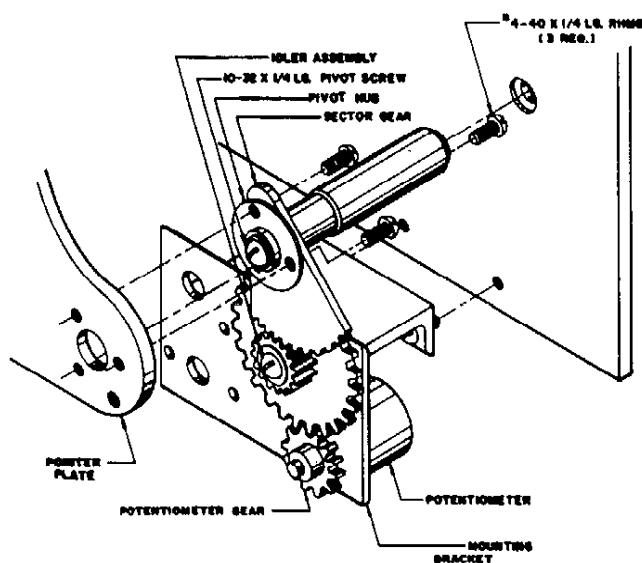

Figure 10. Chlorinator Pacer Attachment
(See Figure 10)
- 6.2.3 Mount the sector gear onto the pivot hub. Position as shown in Figure 10, and fasten the gear and hub onto the pointer plate, using the longer #4-40 x 1/4 inch screws provided.